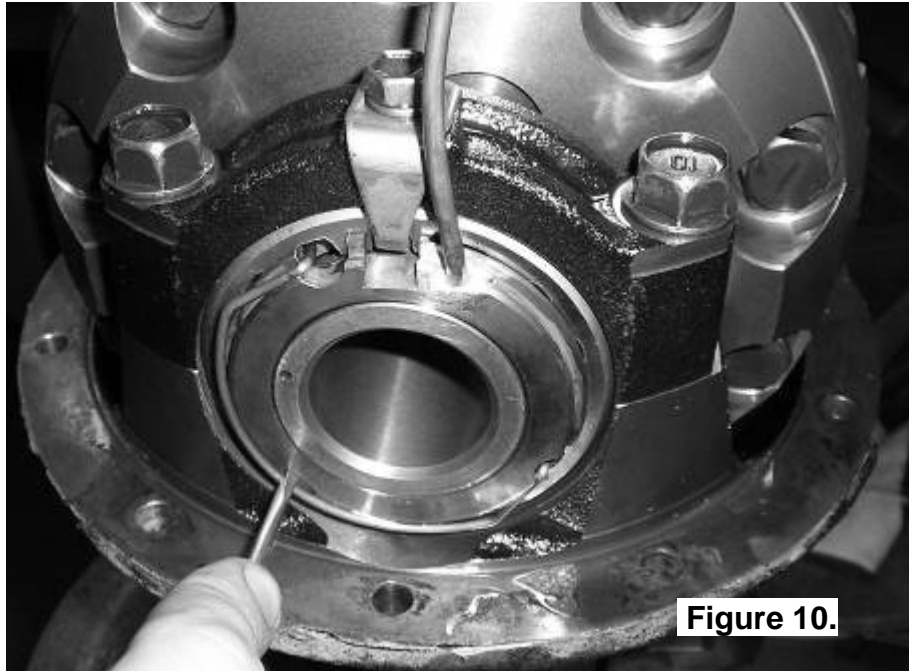

Figure 10.
- ☐ Install the spring clip by first hooking both ends of the clip into the small aligned cutouts of the seal housing and the adjuster nut, and then snapping the clip into the groove of the seal housing using a screwdriver. (Fig.10.)